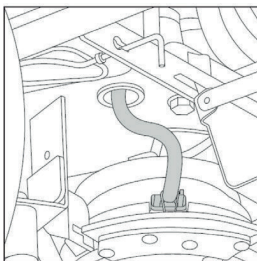

FIG.27B
3. REMOVA A EMBREAGEM ELETROMAGNÉTICA DO VIRABREQUIM DO MOTOR E REMOVA O CABO (C, FIG. 27B). (FIG.27B & FI-G.27C)
7. REMOVA A POLIA MOTRIZ (G, FIG. 27B) DO VIRABREQUIM DO MOTOR.